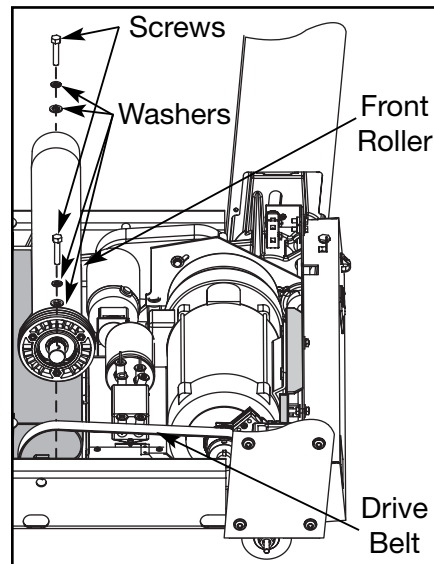

Figure 6
- B. Loosen and remove the two screws and four washers that fasten the front roller to the front end assembly. See Figure 6.
- A. With the drive belt around the drive pulley and the front roller, loosely attach the two bolts and four washers that fasten the front roller to the front end assembly. See Figure 6. Tighten each of the two bolts evenly. Make sure not to tighten one bolt too many turns before moving to the other bolt.